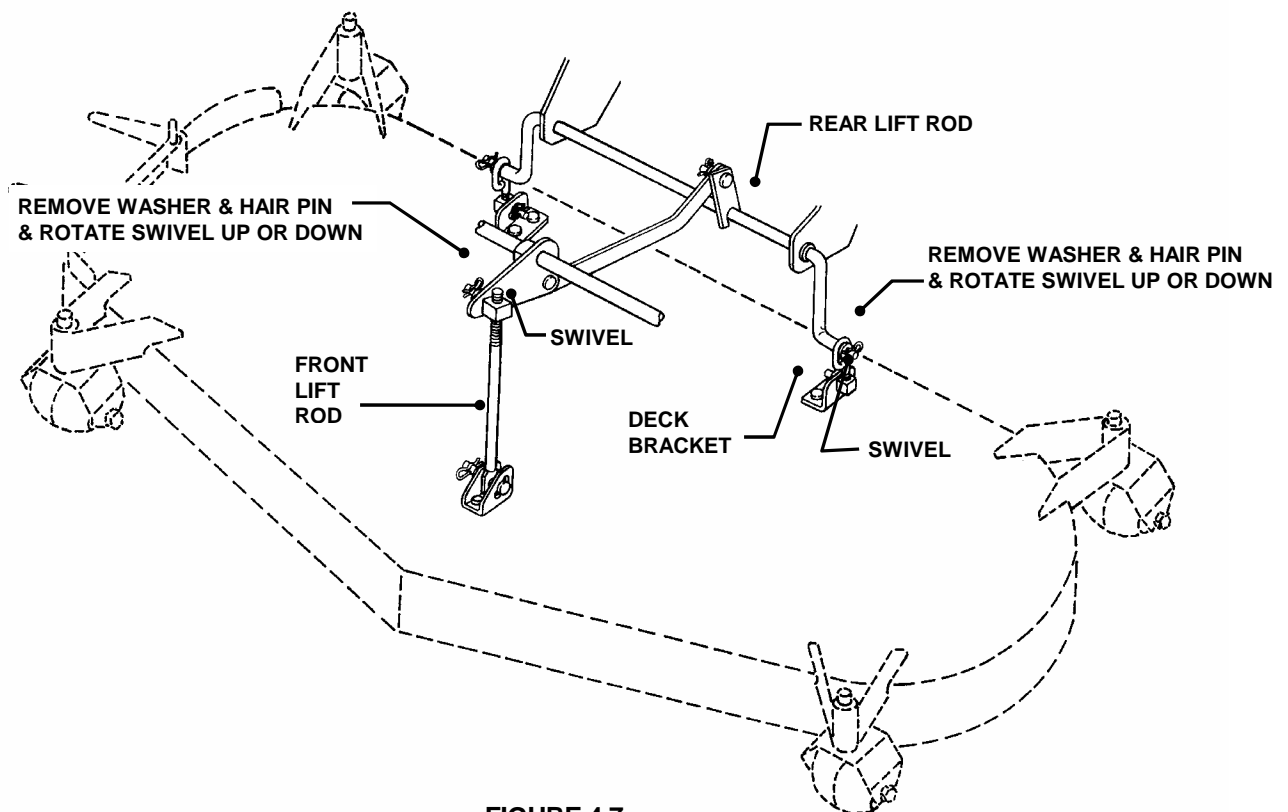

FIGURE 4.7
7. Rotate swivels on both sides up or down to achieve the proper levelness. See Figure 4.7.
5. Reinstall swivel/lift rod into hanger bracket. Reinstall washer & hair pin to secure swivel to hanger bracket. See Figure 4.7.